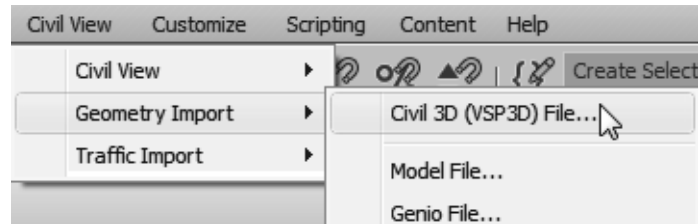

Figure 3–6
2. In the menu bar, select **Civil View>Geometry Import>Civil 3D (VSP3D) File**, as shown in Figure 3–6.